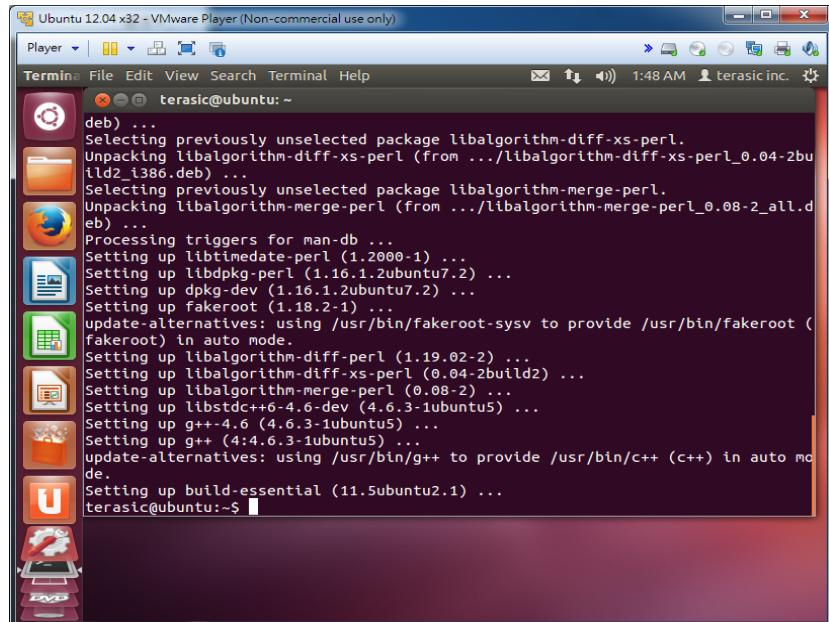

Figure 3-3 Software Package Installation is Now Complete
**Figure 3-3** shows the screenshot after the installation has been completed. Type “exit” to close the terminal.